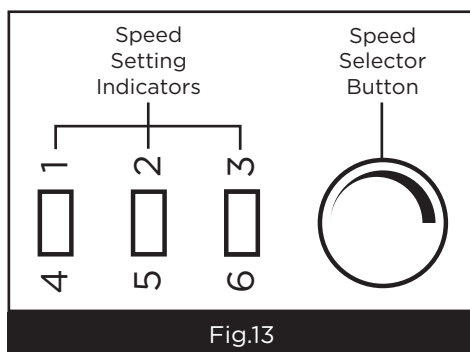

Fig.13
2. The tool speed can be adjusted between 3000 and 9000 revolutions per minute. Press the speed selector button and choose the speed setting you require, Fig.13.